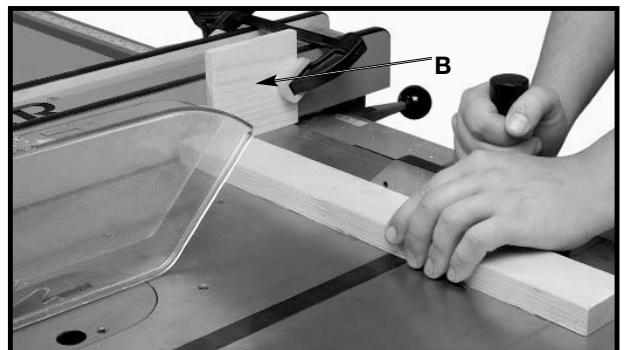

Fig. 46A
When cross-cutting a number of pieces to the same length, a block of wood (B) Fig. 46A can be clamped to the fence and used as a cut-off gage. It is important that this block of wood always be positioned in front of the saw blade as shown. Once the cut-off length is determined, secure the fence and use the miter gage to feed the work into the cut. This block of wood allows the cut-off piece to move freely along the table surface without binding between the fence and the saw blade, thereby lessening the possibility of kickback and injury to the operator.
▲CAUTION WHEN USING THE BLOCK (B) FIG. 46A, AS A CUT-OFF GAGE, IT IS VERY IMPORTANT THAT THE REAR END OF THE BLOCK BE POSITIONED SO THE WORK PIECE IS CLEAR OF THE BLOCK BEFORE IT CONTACTS THE BLADE.